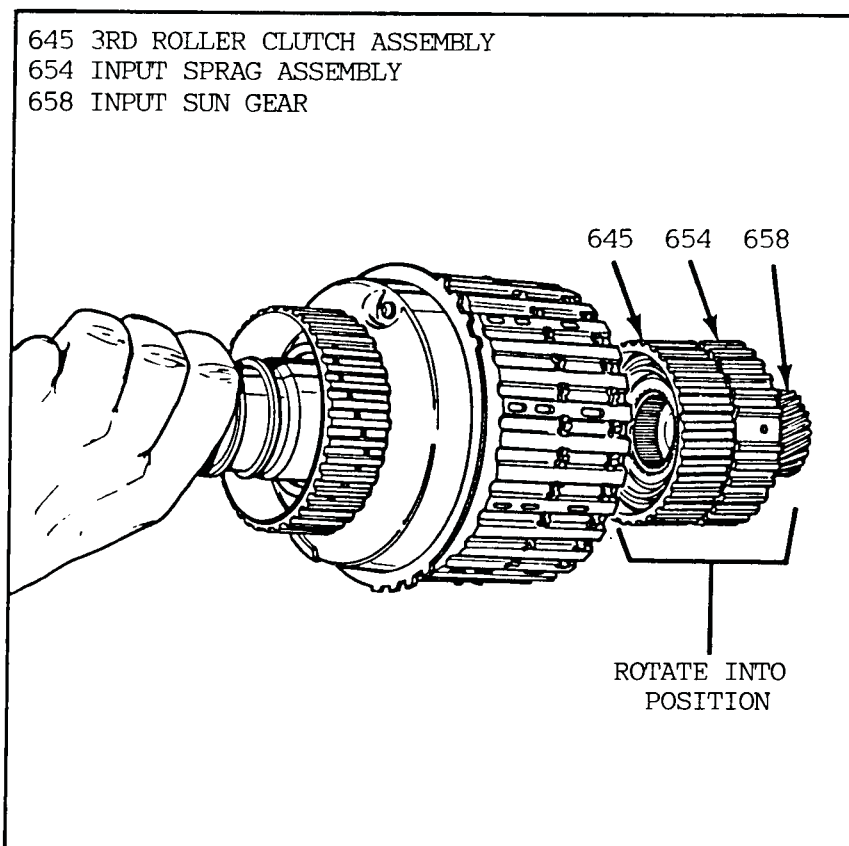

Figure 80
2. Lay input housing on it's side and install 3rd roller, input sprag, and sun gear assembly by rotating into position (See Figure 80). Make certain that all clutches are engaged.
4. Install reverse reaction plate onto input housing as shown in Figure 80.